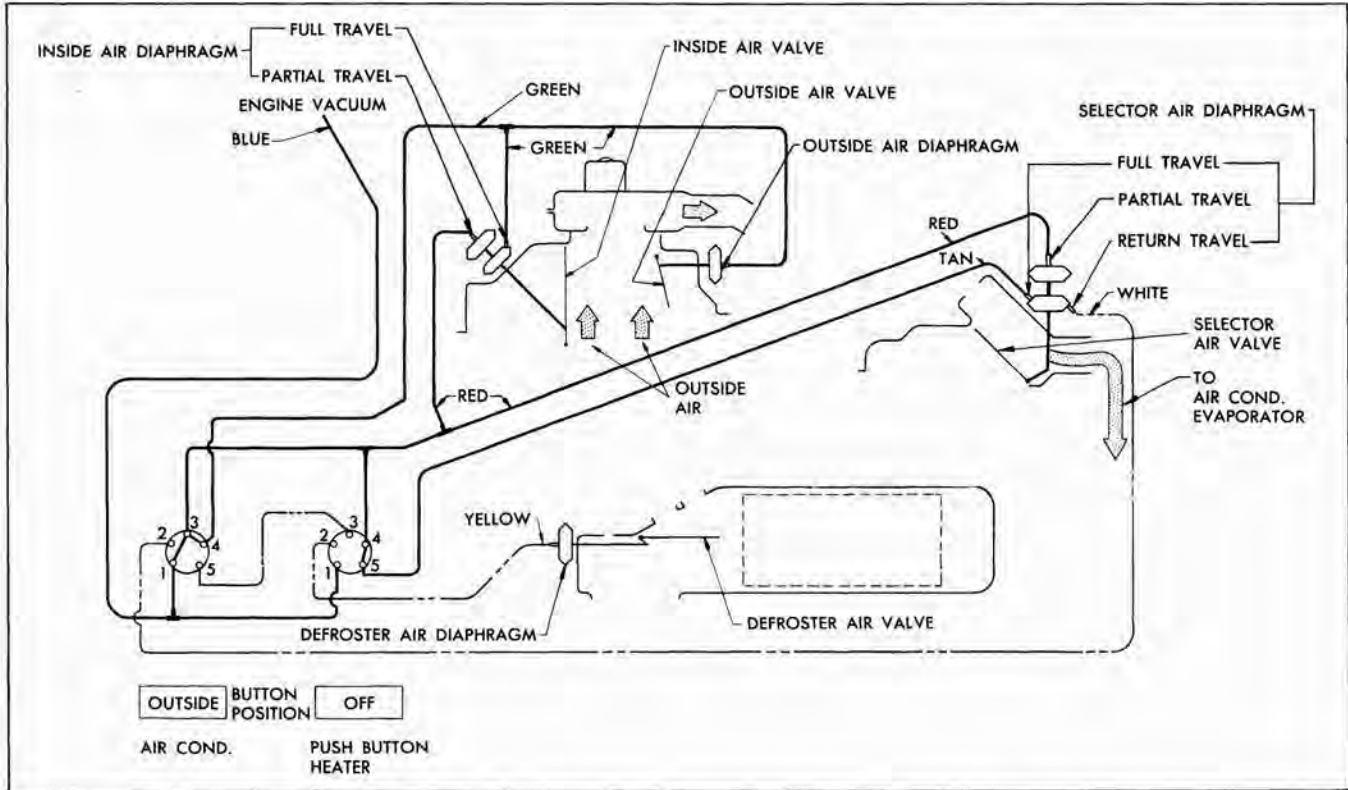

Fig. 5-21 Push Button: AC-OUTSIDE, Heater-OFF.
**PUSH BUTTONS: AC—OUTSIDE, CIRC-L-AIRE HEATER—OFF (See Fig. 5-21)**